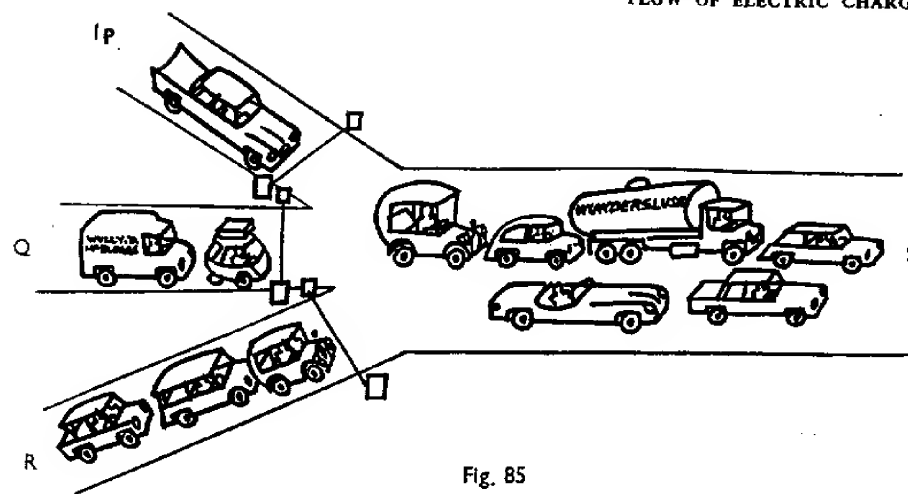

Fig. 85
Imagine a traffic census being taken near a road junction, such as that illustrated in Fig. 85. It is found that on the average one car per second passes along road P, two cars per second along road Q and three cars per second along road R. Then, if we assume that all the roads are one way streets, six cars per second on the average must pass along road S. *Why is this so?* (22)